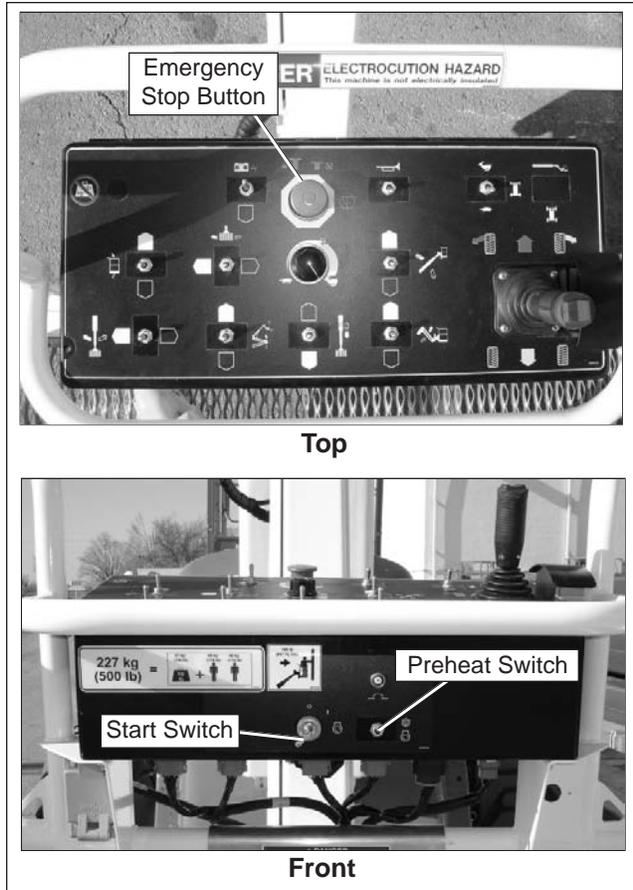

Figure 8.2 – Upper Controls
4. Pull the emergency stop outward (refer to Figure 8.2).